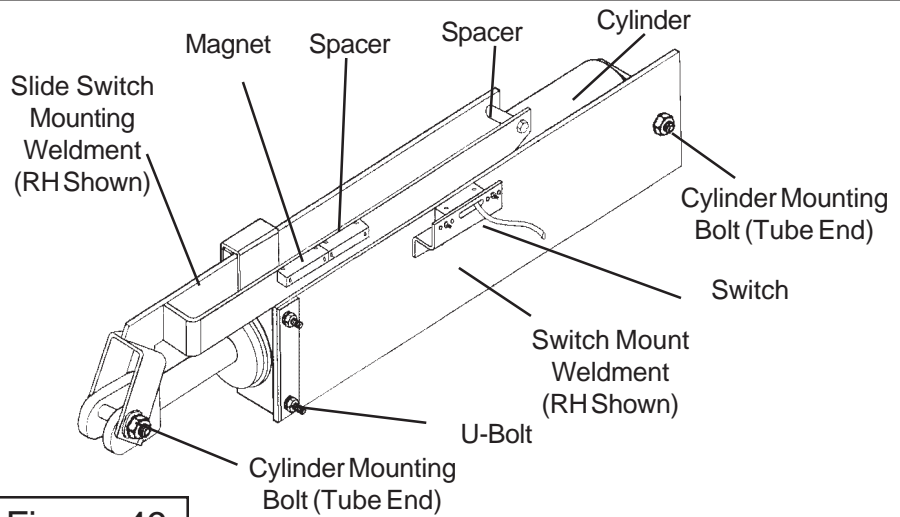
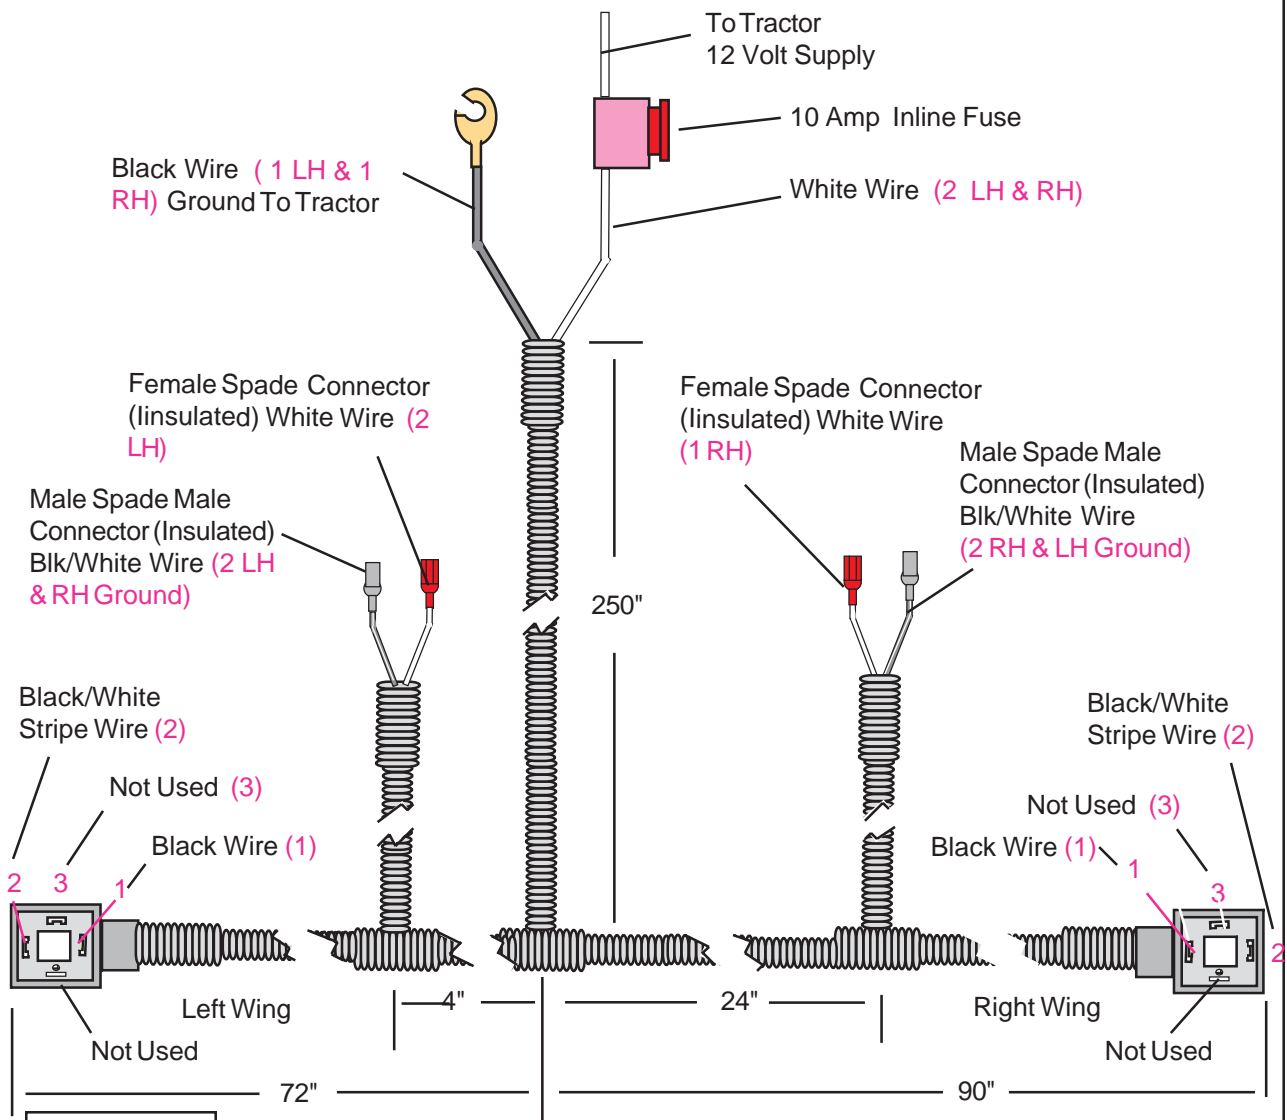

Figure 49
Figure 50
4. Cylinder Switch Brackets bolt to cylinder with a U-Bolt and the cylinder mounting bolts (**figure 49 RH Wing Shown**). The switches and magnetic pickups will bolt to the cylinder bracket. The Switch will have two wires a white wire and a black wire. The wires will have a female spade connector on the black wire which will connect to the black/white wire on the wire harness (**figure 50**). The switch white wire will have a male spade connector which will connect to the white wire of the wire harness (**figure 50**).